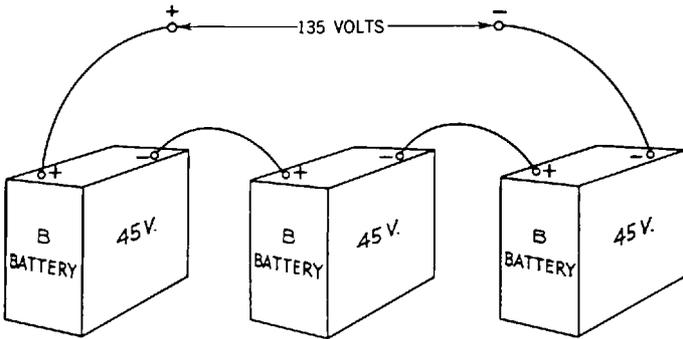

Fig. 30-19. Circuit showing three B batteries in series.
**B Batteries.** For radio use, a number of dry cells may be connected in series, and the whole sealed into a single block by means of wax or pitch. These blocks are known as B batteries. The most commonly used types are blocks of 15 cells (22.5 volts) and 30 cells (45 volts). Should we wish to obtain a higher electromotive force, we may connect several such B batteries in series (Fig. 30-19).